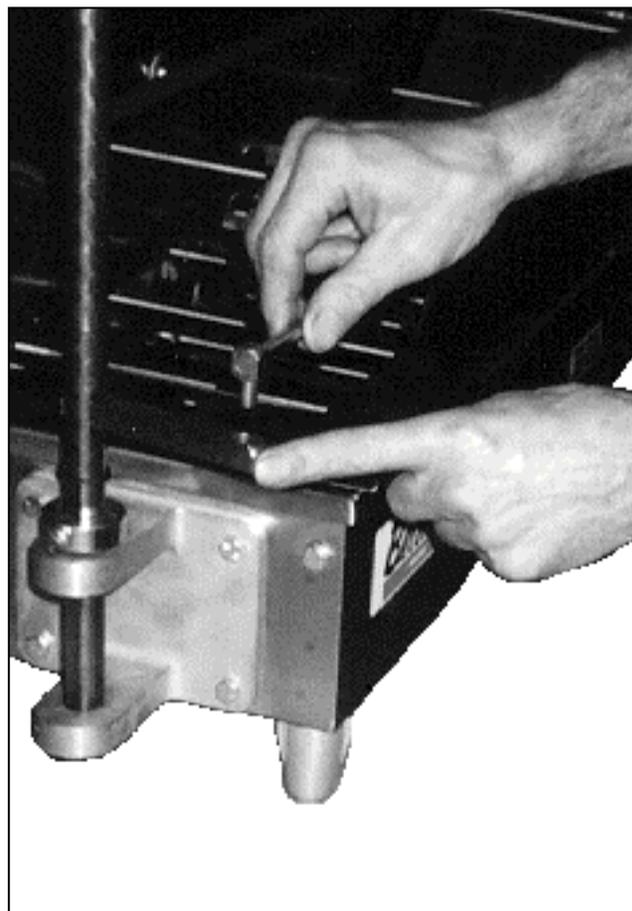

Figure 1-4. Connecting the Swing Connecting Rod.
8. Connect the swing connecting rod to the throw arm of the swing column. A locating pin on the swing connecting rod rests in a hole in the throw arm. (See Figure 1-4.)